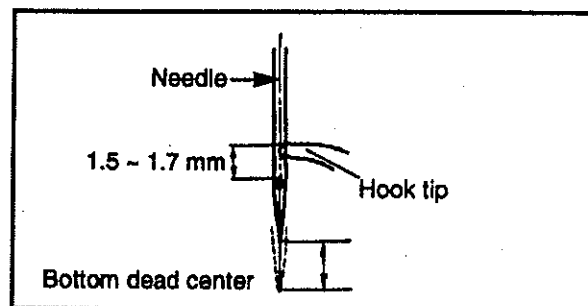

FIG.1
- (3) Rotate the hand wheel forward so that the needle bar is lifted from the bottom dead center and the hook tip is aligned with the needle and the hook tip is aligned with the needle center. The height must be $1.5 \sim 1.7$ mm (Fig.1).